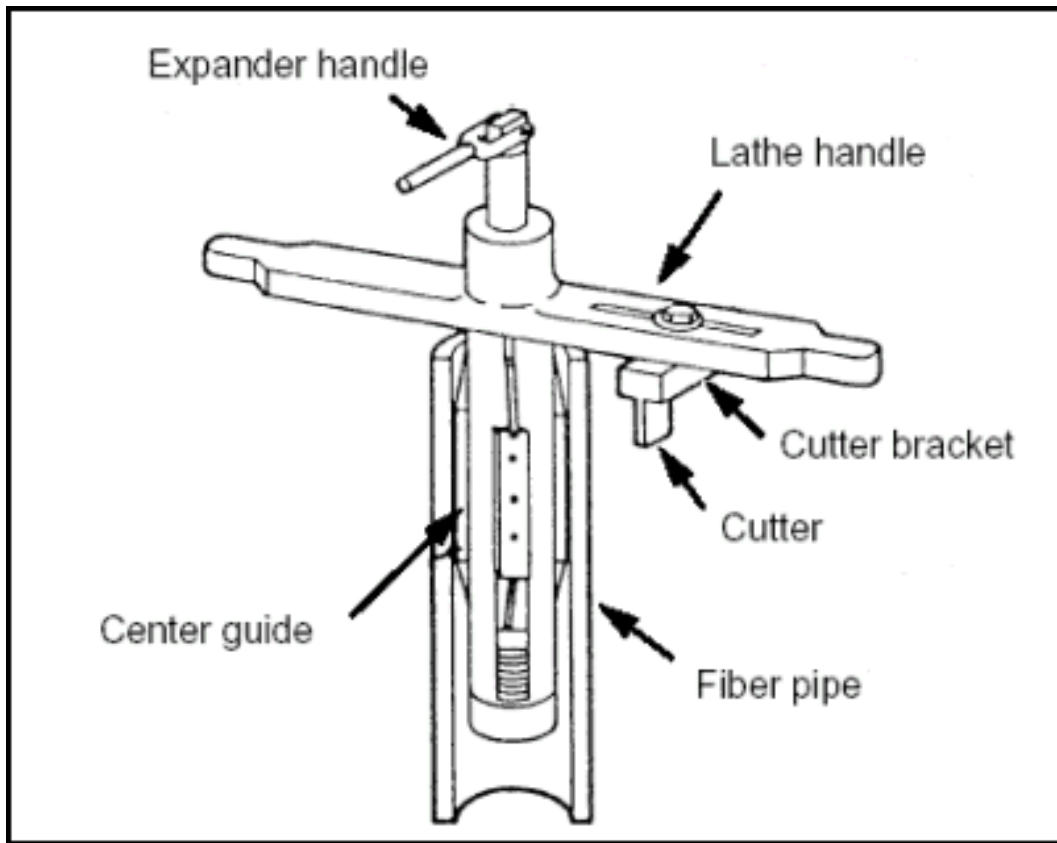

Figure 6-49. Fiber-Pipe Tapering Tool
Step 2. Insert the center guide of the tapering tool (Figure 6-49) into the pipe until the cutter bracket rests on the end of the pipe.